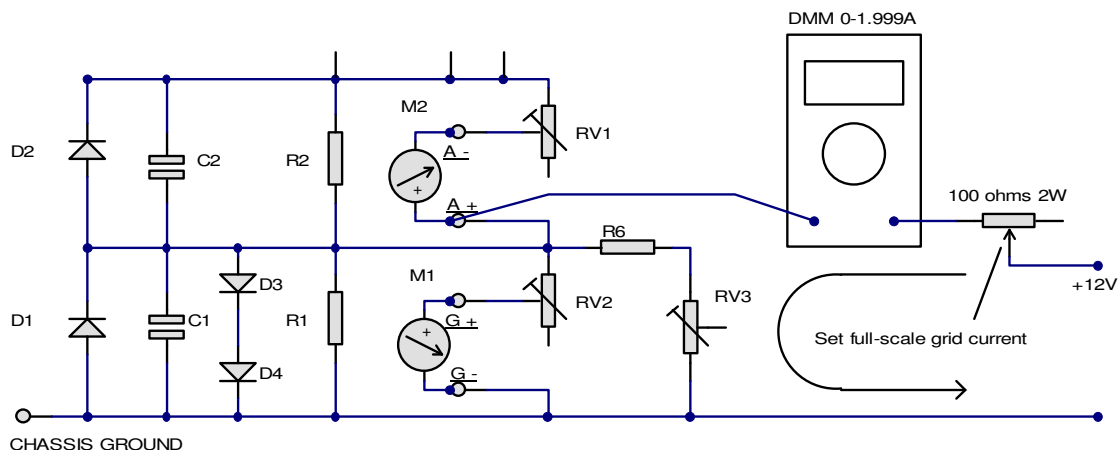

Figure 11: Calibration setup for grid current meter. Alternatively you can use a variable voltage/current power supply.
2. Connect a 100Ω 2W variable resistor to an external +12V DC supply, and in series with this connect an accurate current meter to the A+ terminal (see Figure 11, next page). This will allow you to pass a known current through the grid meter shunt R1. Alternatively you can use a variable voltage/current power supply.
2. Connect an accurate voltmeter between the C and E terminals of Q1, as shown in Figure 11.
1. Reconnect the temporary grid current setup as shown in Figure 11. Set RV3 to mid-travel.